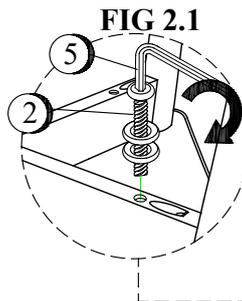

FIG 2.1
Step 2.1 Insert the JCBC Bolt with washer (2) into the pre-drilled holes on the Cross bar (I, J) into the Cushion seat (A), tighten the JCBC Bolt with washer with Allen Key provided as shown on FIG 2.1